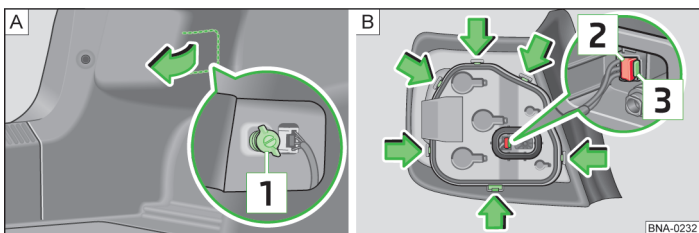

Fig. 86 At the side of the luggage compartment: removing the tail light assembly / Tail light assembly: removing the bulb housing
3.	Reach into the opening in the side trim of the luggage compartment » fig. 86 - A and pull the pre-punched cover in the side trim forward.
9.	To unlock the bulb housing, press the locking plates » fig. 86 - B in the direction of the arrows.